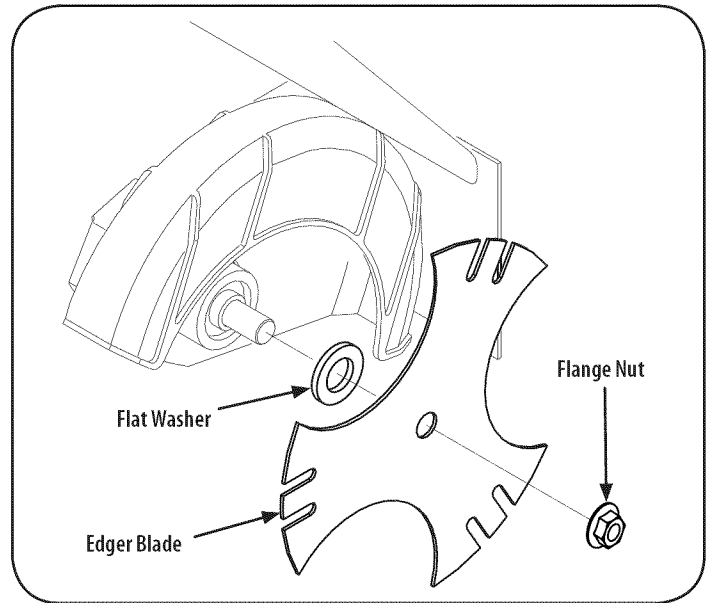

Figure 19
2. Use two wrenches (one wrench to prevent the hex bolt head from spinning and the other to remove the flange nut) to remove the edger blade. Refer to Figure 19.